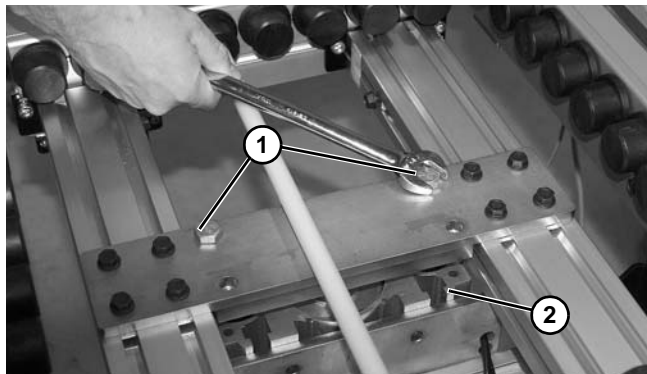

Figure 92
5. Remove two bolts (**Figure 92, item 1**) securing lift and transfer section onto cylinder (**Figure 92, item 2**).